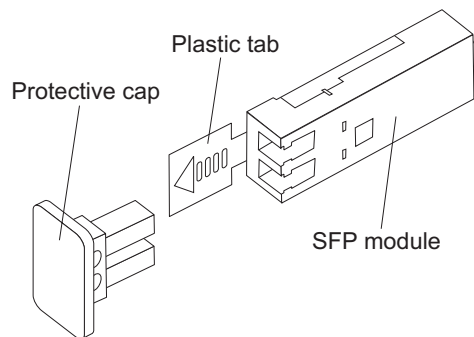

Figure 13. Small Form-Factor Pluggable (SFP) Module
2. Remove the protective cap from the SFP module, as shown in Figure 13. Save the protective cap for future use.
2. If necessary, remove the protective cap from the SFP module, as shown in Figure 13 on page 22. Save the protective cap for future use.